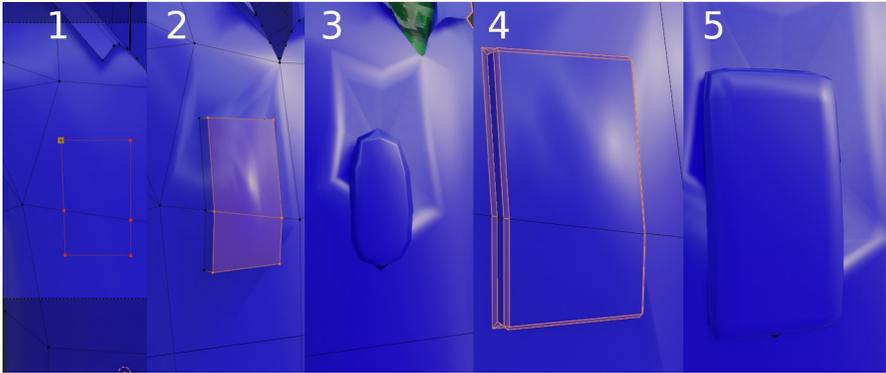

Figure 7-6 Cut, extrude and bevel a pocket
17. Still in Edit mode select the Knife tool from the Toolbar and draw a rectangle where the breast pocket will go. See Figure 7-6 stage 1. You will find this easier if you toggle the shrinkwrap and subdivision modifier Realtime option off so they don't distort or hide the mesh in the 3D Viewport. Vertices will be created where you LMB or where the red line crosses another edge. There is automatic snapping to edges or vertices so this tool is very easy to use. When the shape has been defined, press **ENTER** to fix it.
18. To make the patch shape into a pocket, extrude the rectangle you have created by a small amount as in Figure 7-6 stage 2, but note that when you enable the subdivision modifier it distorts the pocket drastically, as seen in stage 3.
19. The simplest way to stop the edges being smoothed like this is to add a bevel. Select the pocket edges, but excluding the ones crossing the center of the rectangle and bevel them, in Adjust Last Operation set Segments to **1** and an Offset of **0.001**. Now the subdivision and shrinkwrap should look much better, see Figure 7-6 stages 4 and 5. However the faces around the pocket